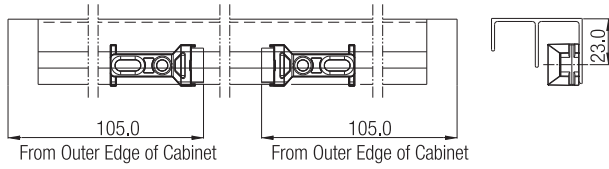

Fig. 7
- 6.4. Fit the Bottom Stoppers as shown in Fig 7.